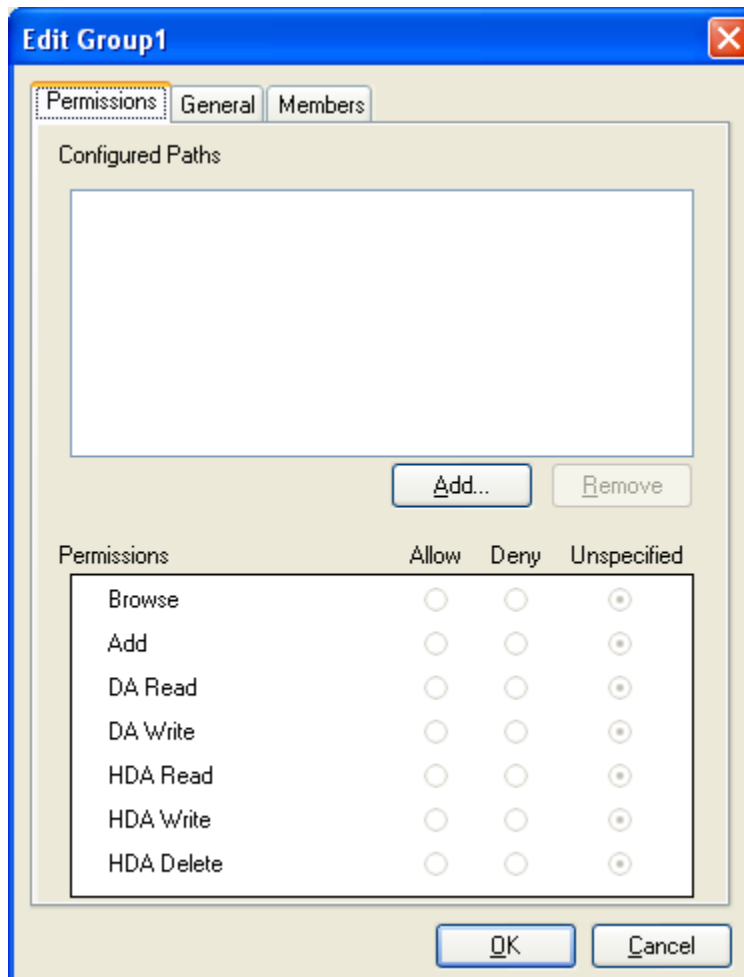

Figure 57 - Edit <Groupname> Window (Permissions Tab)
6. The **Edit <Groupname>** window (Figure 57) appears (for NT Groups, there is only the **Permissions** tab). Follow the instructions in the **Edit Group** section for adding permissions.
6. The **Edit <Groupname>** window (Figure 57) appears. Follow the instructions in the **Edit Group** section for adding permissions.
2. The **Edit <Groupname>** window (Figure 57) appears.